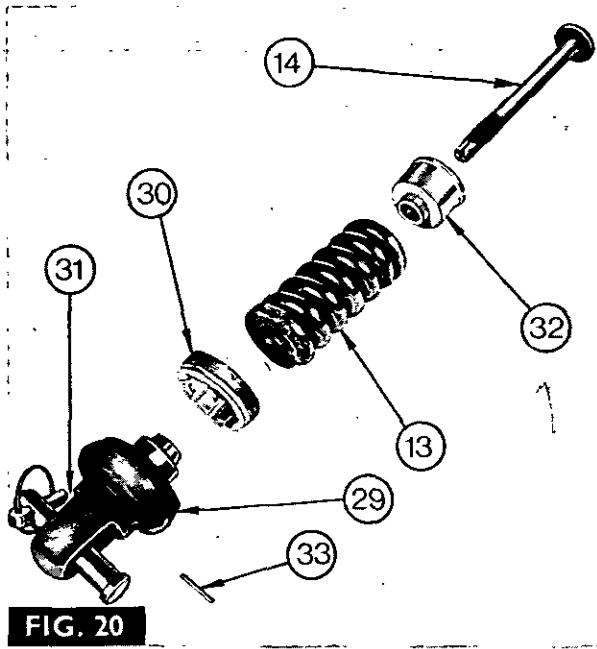

FIG. 20
2. Fig. 20. Drive out the pin (33) and detach the head (31).
3. Remove the retainer (30), control spring (13) and spring seat (32) from the plunger (14).
1. Fig. 20. Refit the spring seat (32), spring (13) and retainer (30) to the plunger (14).
2. Screw the plunger into the head (31), until all the end float is eliminated and the spring is tight to turn by hand.
3. Fit a new securing pin (33).